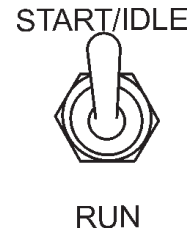

Figure 22. Speed Control Switch (START/IDLE)
1. Set the Speed Control Switch to the **START/IDLE** position (Figure 22).
2. Set the Speed Control Switch to the **START/IDLE** position as shown in Figure 22 and let the engine cool for 3-5 minutes with no load applied.